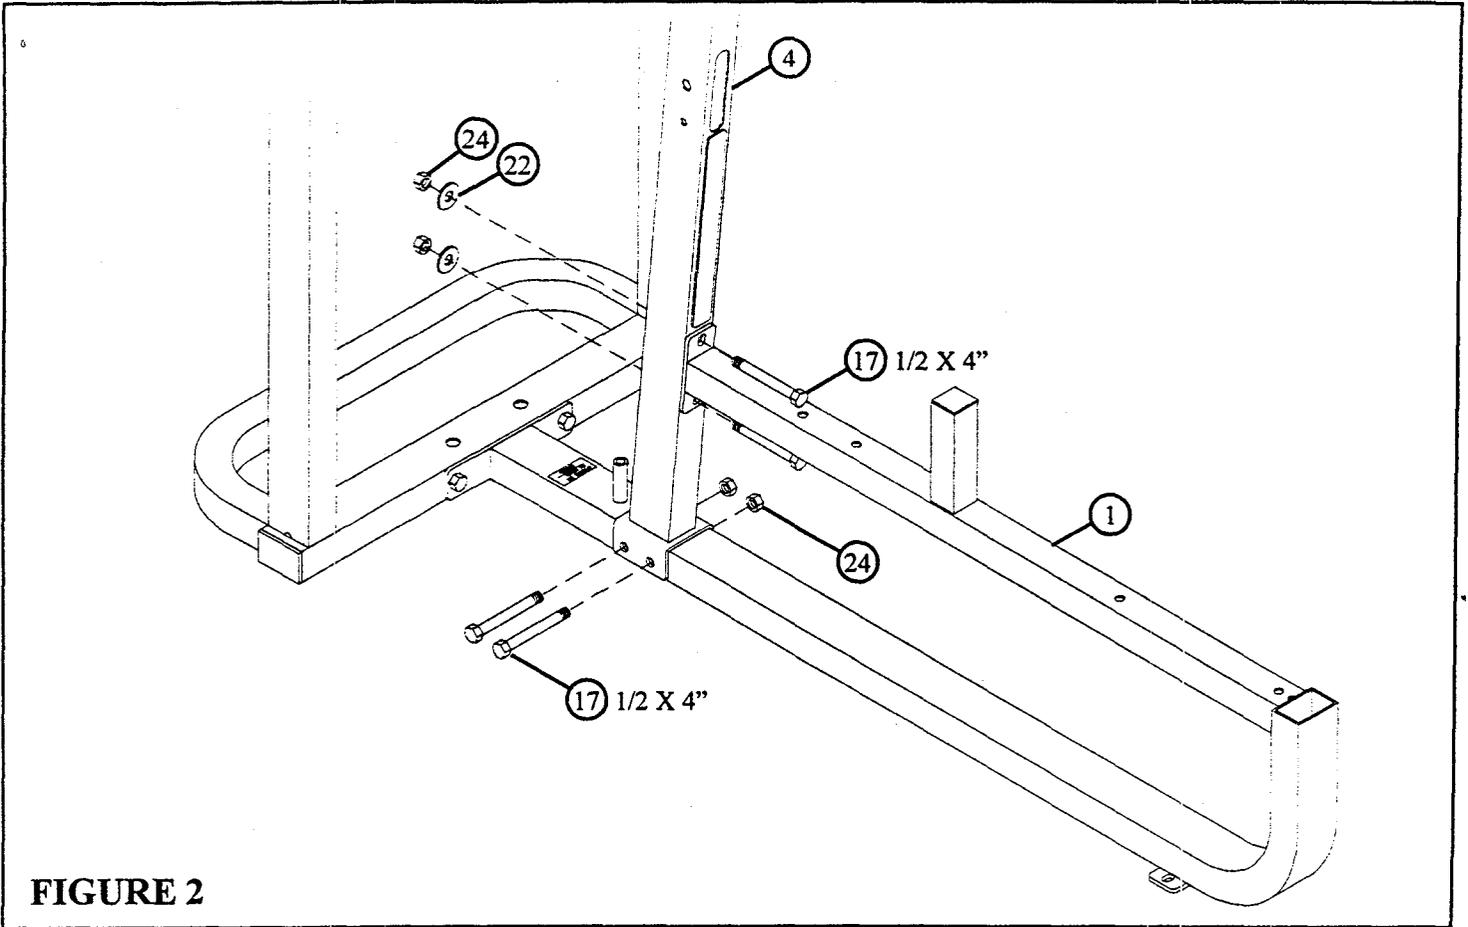

FIGURE 2
Loosely attach UPRIGHT (4) to BENCH FRAME (1) using four 1/2 X 4" BOLTS (17), two 1/2" WASHERS (22), and four 1/2" LOCK NUTS (24) as shown in FIGURE 2.